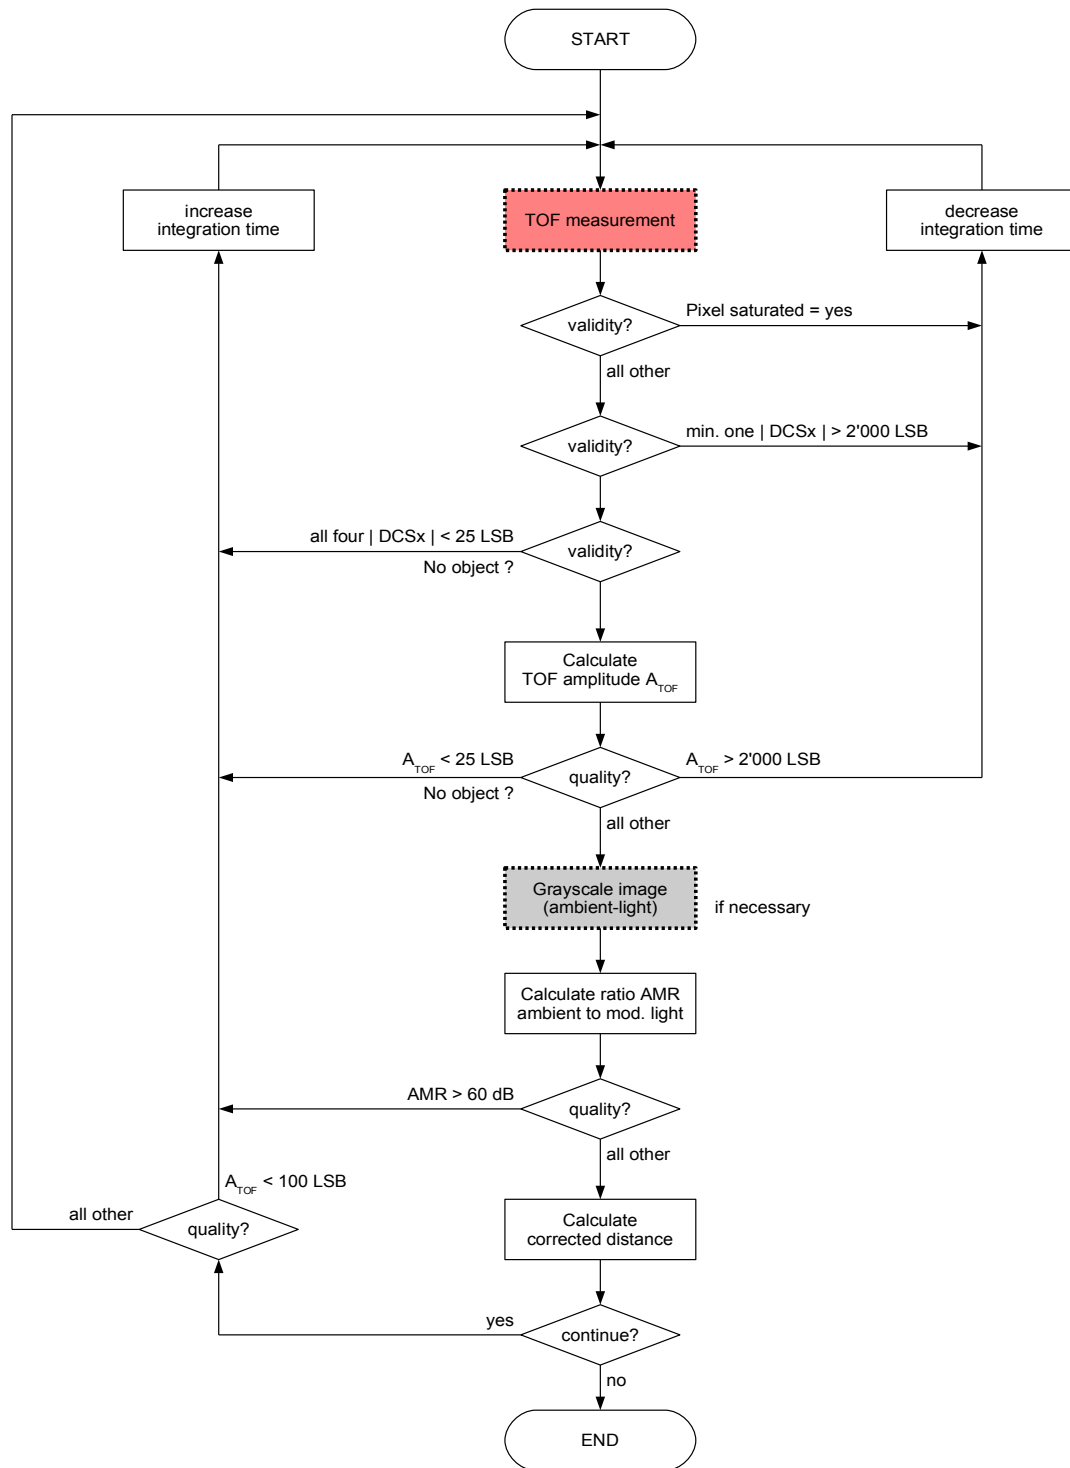

Figure 46: Generic validity and quality flow chart for a single pixel
Table 57: Validity (V) and quality (Q) decision matrix (see also Figure 46)